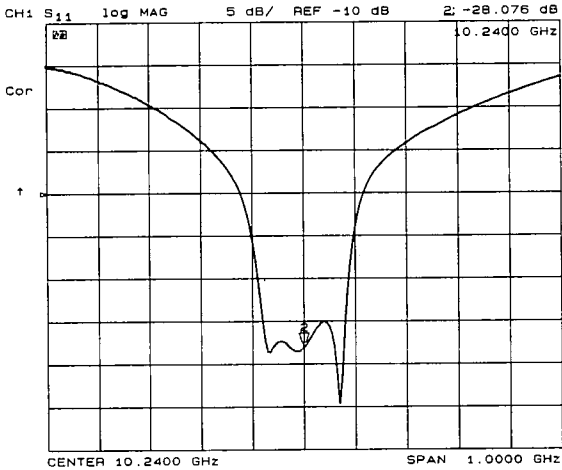

Figure 4-9. Log Magnitude Format
**[LOG MAG]** (LOGM) displays the log magnitude format. This is the standard Cartesian format used to display magnitude-only measurements of insertion loss, return loss, or absolute power in dB versus frequency. Figure 4-9 illustrates the bandpass filter reflection data in a log magnitude format.